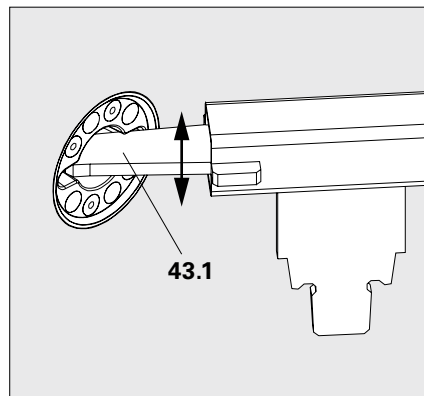

Fig. A13.04a
2. Insert spanner lug (43.1) into the guide groove of the Magnet Cone from the right, and clean the slot. (Fig. A13.04a)